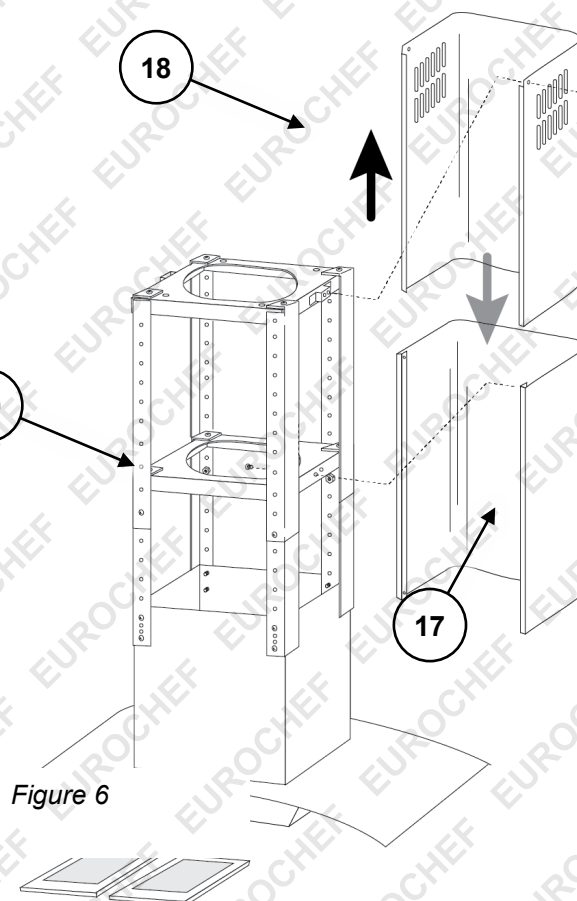

Figure 6
10. Refer to *Figure 6*. Place the flue extension cover pieces (18) inside the flue cover pieces (17) – these are left loose so they can be pulled up and into position later.
11. Install the flue cover (17) by placing each piece on either side of the flue frame. The bottom edges of the flue cover fit into the space around the hood of the exhaust unit. Screw the flue cover pieces to the flue support bracket using 4 #8 self-tapping screws (19).
12. Gently pull the extension flue cover pieces up from the flue cover until they reach the ceiling. Secure them to the ceiling mounting bracket using 4 #8 self tapping screws (19).